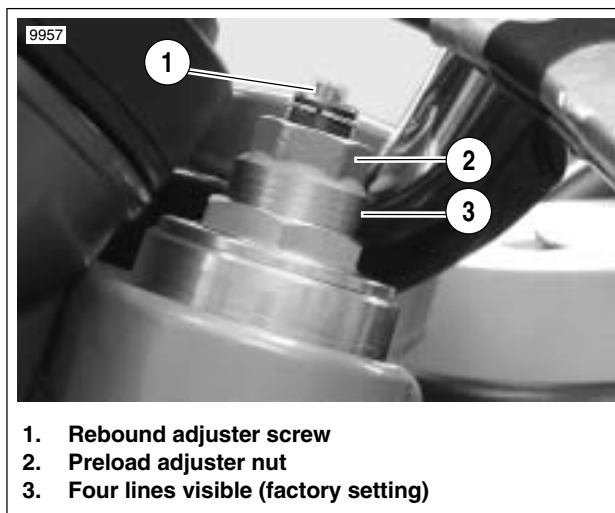

Figure 1-29. Front Fork Preload And Rebound Adjuster
1. Check number of lines (3) to be showing for your load condition. Refer to Table 1-10.
2. See Figure 1-29. Adjust preload by turning the adjuster nut (2) with a wrench.
1. See Figure 1-29. Using a screwdriver, turn the slotted dial (1) clockwise until it stops. This is the maximum rebound damping setting.
1. See Figure 1-29. Using a screwdriver, turn the slotted dial clockwise until it stops. This is the maximum compression damping setting.